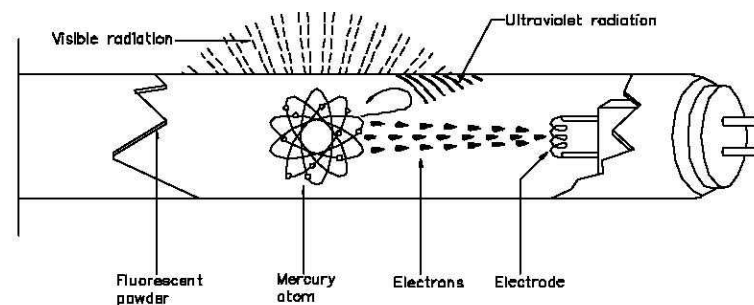

Fig. 1: Basic operating principle of conventional fluorescent lamp
Induction lamps are high frequency (HF) light sources, which follow the same basic principles of converting electrical power into visible radiation as conventional fluorescent lamps. Fig. 1 below shows the operating principle of a fluorescent lamp.